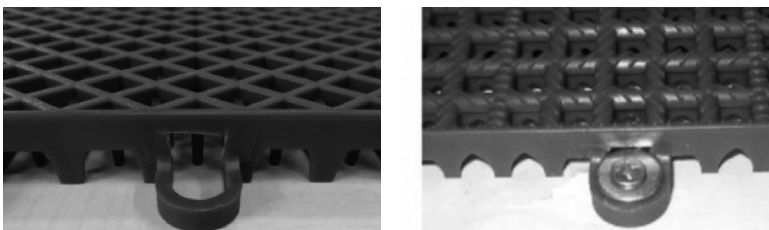

Figure 3. Anchor (and washer) not over-tightened, so that the floor can still move.
- c. Place the anchor and washer in the prepared tile loop as shown in Figure 3.
CAUTION: do not over-tighten! Over-tightening on the loop may cause the court to buckle. See Figure 3).
CAUTION: the nail must be fully seated, but do not compromise the flexibility of the flooring by driving the nail too tight on the loop. This may cause the court to buckle. See Figure 3).